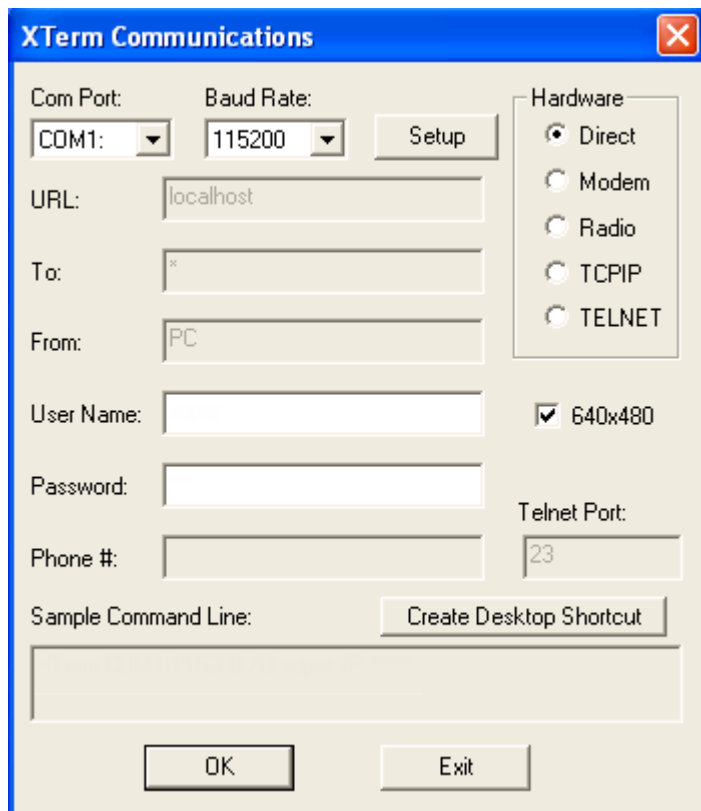

Fig 10. Xterm Startup Screen
1. Start Xterm on your computer and connect to Com 1 on the Xpert, selecting the correct COM Port on your computer and the baud rate for the Xpert. In most cases the baud rate is 115200; however, some Xpert COM1 ports are set for 9600 baud (Fig 10).